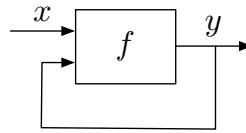

Figure 2.39: Feedback around a function.
9. Figure 2.39 is more interesting system. Obviously this represents the equation $y = f(x, y)$. That is, f is a function of two variables, and we've attempted to define a new function by the equation $y = f(x, y)$. For the block diagram to be well-defined, that is, to represent a function, it must be true that for every x there exists a unique y such that $y = f(x, y)$. Give an example of f where the block diagram defines a function and one where it does not.